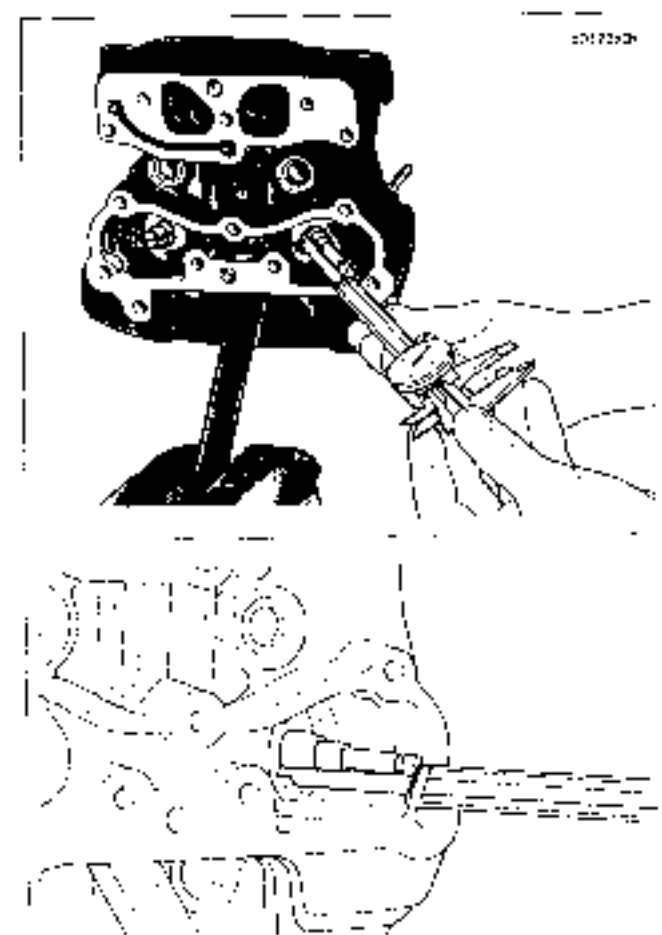

Figure 3-100. Checking Valve Stem Protrusion
2. See Figure 3-100. Measure valve stem protrusion. Seat wear causes the valve stem protrusion to change.